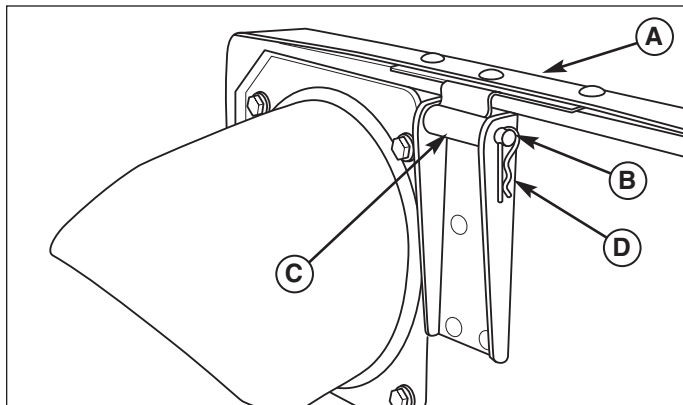

Figure 15. Remove the Cover
1. Remove the hair pin clips (D, Figure 15) and hinge pins (B) and remove the cover (A).